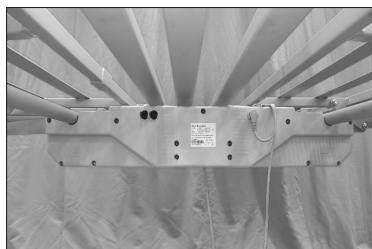

Fig.11
2. Insert the bar tabs inside the motor housing until they both snap in. (**Fig.11**)